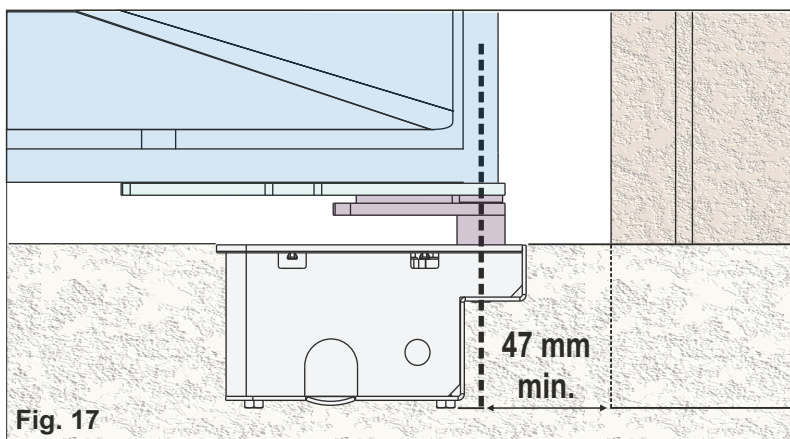

Fig. 17
**! DO NOT PLACE THE LEAF OUTSIDE THE AXES (FIG. 13); MAKE THE SHAFT COINCIDE WITH THE ROTATION AXIS OF THE LEAF HINGE, CONSIDERING THAT THE MINIMUM DISTANCE FROM THE COLUMN MUST BE 47 mm (FIG. 17) GREASE EVERYTHING BY THE USE OF THE SPECIAL GREASE NIPPLE, UNTIL THE GREASE COMES OUT FROM BOTH SIDES**